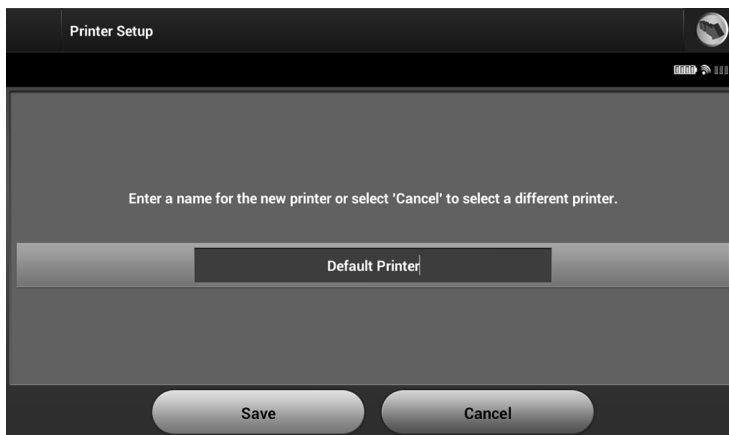

Figure 10: *Use the on-screen keyboard to enter a name for the selected printer*
5. Select the desired printer name and enter the name using the on-screen keyboard (up to 15 characters). A unique printer identifier should appear with the printer selection (Figure 10).